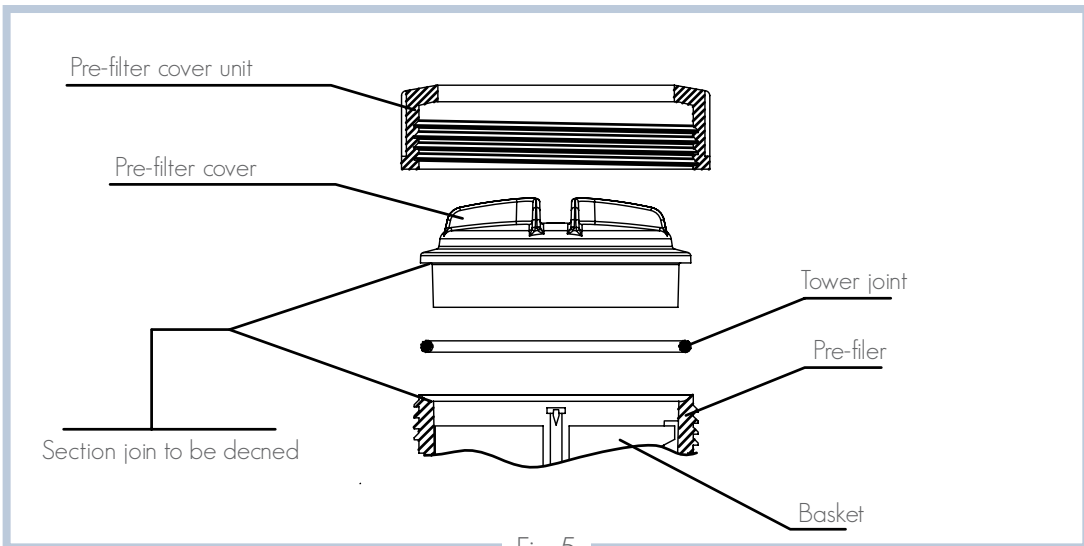

Fig 5
1. Remove the pre-filter cap by unscrewing the nut holding it in place (Fig. 5).
- Fit the pre-filter cap and screw on tight, not forgetting to fit the seal in its housing (Fig. 5).
- Remove the purge cap (10) to empty the pump.
- Every time the pre-filter is opened, clean the seal and its seating of any impurities to ensure airtightness when the cap is closed (Fig. 5).